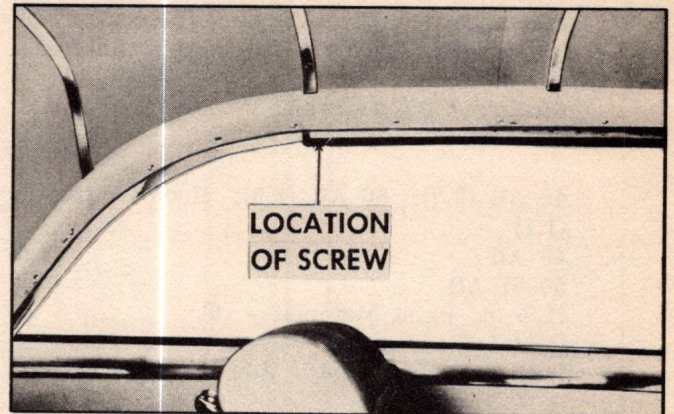

Fig. 9 Hole Location for Screw
1. Drill a 1/8" hole at location shown in Fig. 9.